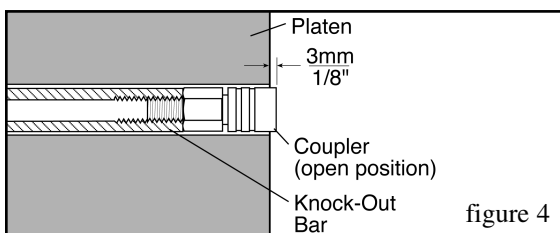

figure 4
2. Insert the ejector bar and coupler through the platen and into the press ejector plate. For presses with non-adjustable ejector home position, install the coupler (in the open position) so it extends 1/8" (3.18mm) past the platen surface. The coupler, in the closed position, will be flush with the platen surface. See figure 4.